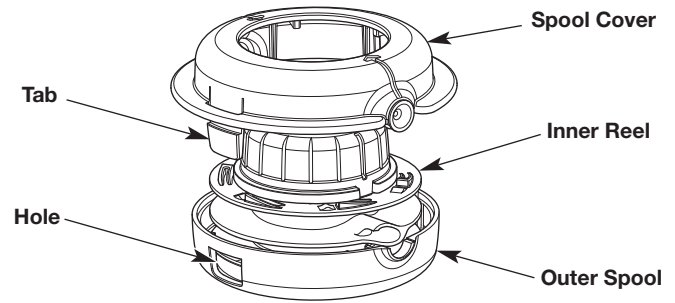

Fig. 20
1. Firmly press in the tabs on the cutting head (Fig. 20).
2. Remove the spool cover (Fig. 20).
4. Use a clean cloth to clean the inner reel, outer spool and spool cover (Fig. 20).
5. Align the tabs on the spool cover with the holes on the outer spool (Fig. 20). Push the spool cover onto the outer spool until the tabs securely snap into the holes.